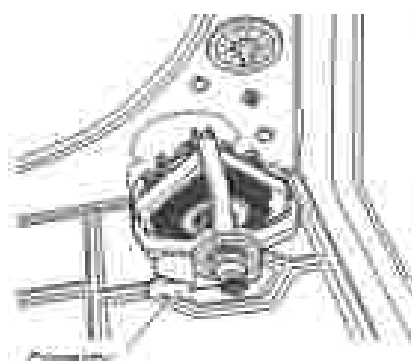

Figure 7 - Remove connector.
9. Check the wiring and continuity from the L2 terminal of the terminal block and the L2 terminal in the wire connector from the ACU. See figure 7 or page 22. Also, locate these measurement points by referring to the appropriate wiring diagram (Electric) or page 23.
8. Remove the white connector from the drive motor section. See figure 7.